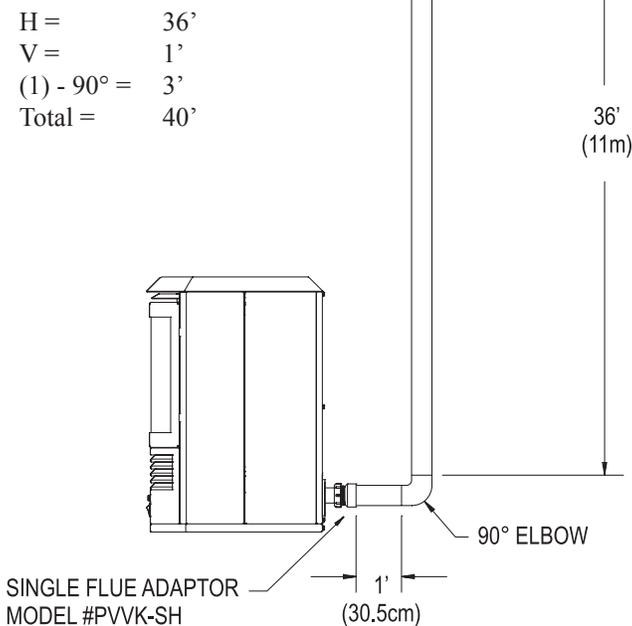

**Figure 18**
**Note:** Horizontal discharge 90° elbow must be pointed downward. See Figure 18. All horizontal runs require either a 1/4" per foot rise to run condensation back to the heater, or a 1/4" per foot downward slope to run condensation away from the heater.